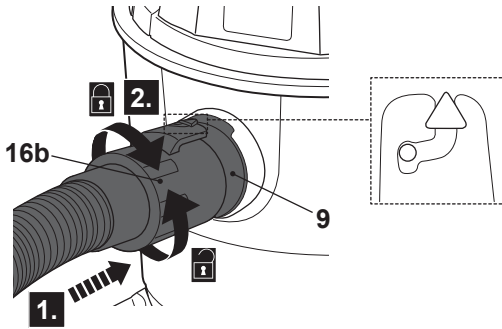

Fig. 12
- > Align the arrow on the hose connector (16b) with the tab on the outer opening of the air inlet (9) and slide the hose connector into the outer opening of the air inlet (Fig. 12, step 1).
- > Rotate the hose connector (16b) clockwise and ensure the connection is properly secured (Fig. 12, step 2).